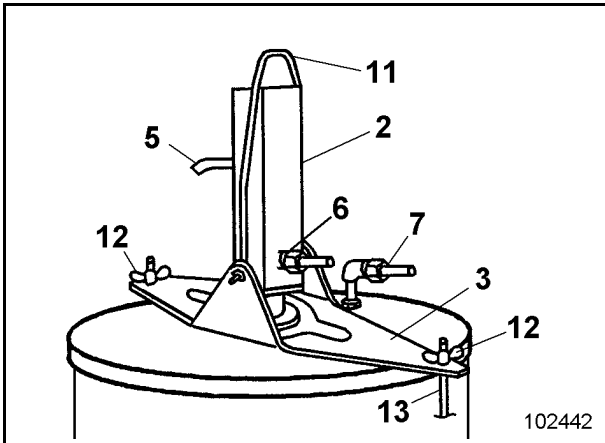
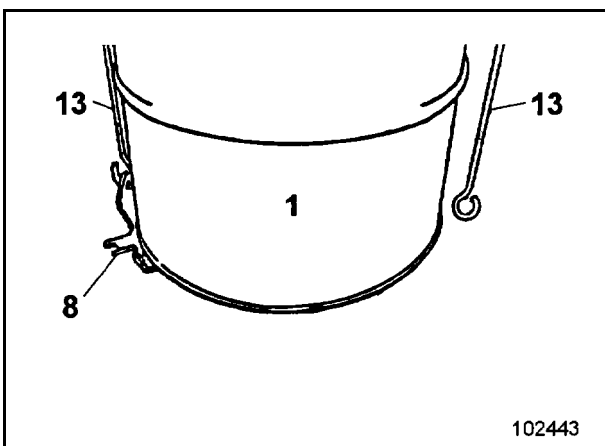

Fig. 3-116:
Fig. 3-117:
- Detach lines (5, 6 and 7, Fig. 3-116:).
- Loosen wing nuts (12) and lift off holder (3).
- Remove cover together with grease pump (2, Fig. 3-116:) from grease container 1, Fig. 3-117:).
- Fasten cover with grease pump (2, Fig. 3-116:) on grease container.